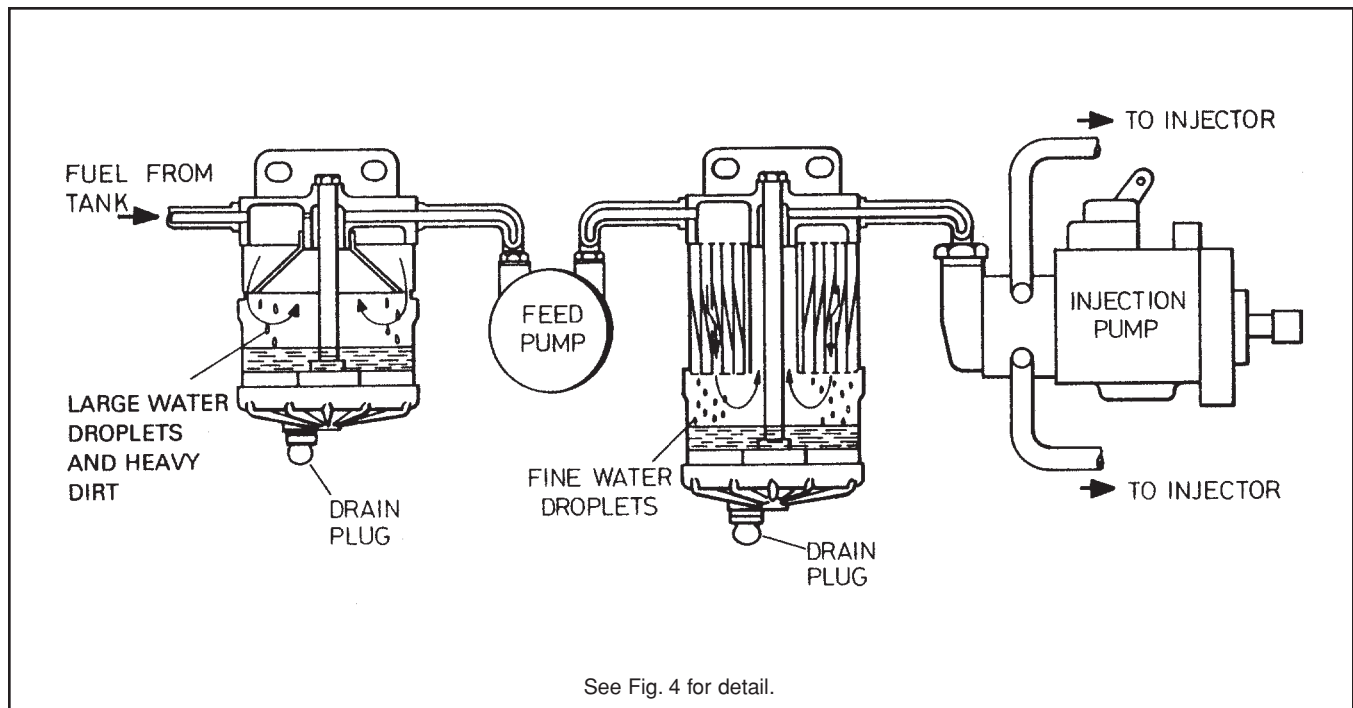

Figure 2 - Filtration System & Filter Drain
- 2). Fuel Filters: Both fuel filters have a drain located at the bottom of their body (Fig. 2), these filters should be drained each week to relieve built up water.